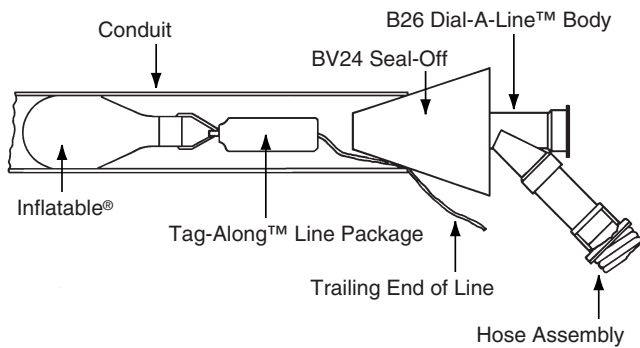

Figure 24: Blowing a Tag-Along Line Package in conduit with the Inflatables®
2. Unfurl The Inflatables® line carrier and place it in the conduit — bag portion first. See Figure 24.